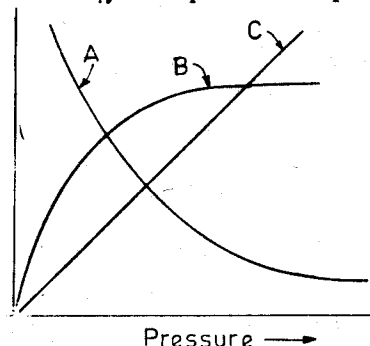

Fig. 2
4. Fig. 2 shows the relation between the properties of saturated steam. The curves of pressure-volume, pressure-temperature and pressure-density are represented respectively by curves.